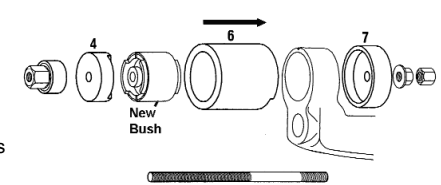

Fig.8
**IMPORTANT:** Ensure the 'slot' of the bush (Fig.8) aligns exactly under the arrow on Compressor Sleeve (6). The bush is not visible during initial installation and the arrow must act as your indicator for the correct positioning of the bush. Align the complete assembly via the arrow ON TOP of the Compressor Sleeve (6) with the paint mark made earlier on the arm. Ensure the 'Slot' of the bush also aligns under the arrow.